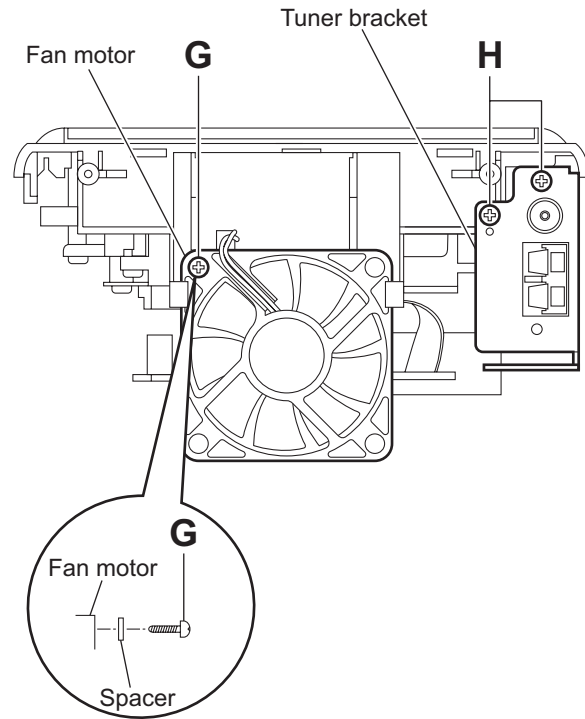

Fig.9
3.1.5 Removing the fan motor (See Figs.9 and 10)
- Remove the rear cover, side panels(L)/(R) and top cover assembly.
- From the back side of the top cover assembly, remove the screw **G** attaching the fan motor. (See Fig.9.)
When attaching the screw **G**, attach the spacer with it. (See Fig.9.)
3.1.6 Removing the tuner (See Figs.9 and 10)
- From the back side of the top cover assembly, remove the two screws **H** attaching the tuner bracket. (See Fig.9.)